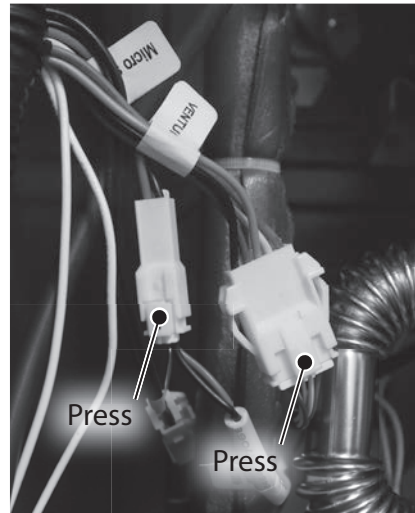

Figure 127 - Locate venturi and micro switch wires
- 17** Locate the wire connectors labeled "Venturi" and "Micro Switch" and disconnect them as shown in Figure 127. These wires are connected at and run through the black cable conduit located on the left side of the water heater cabinet.